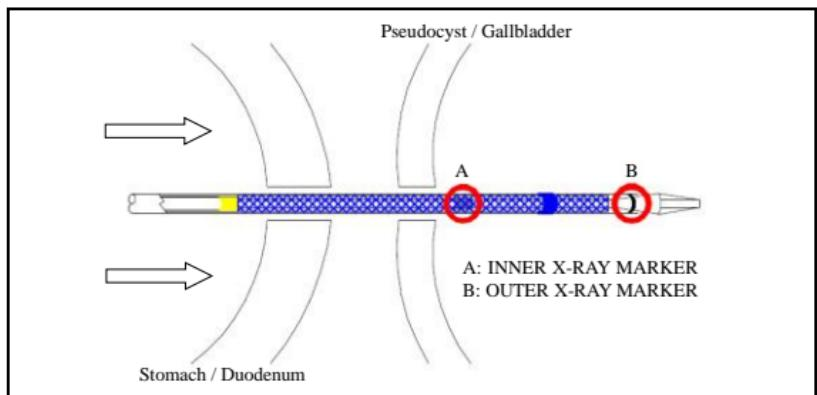

Figure 3
- a) Under the fluoroscope and endoscopic guidance, position the Electrocautery Stent Delivery System [HDS-10]. Inner X-ray marker ('A' of Figure 3) should pass through the wall of a pseudocyst or gallbladder.